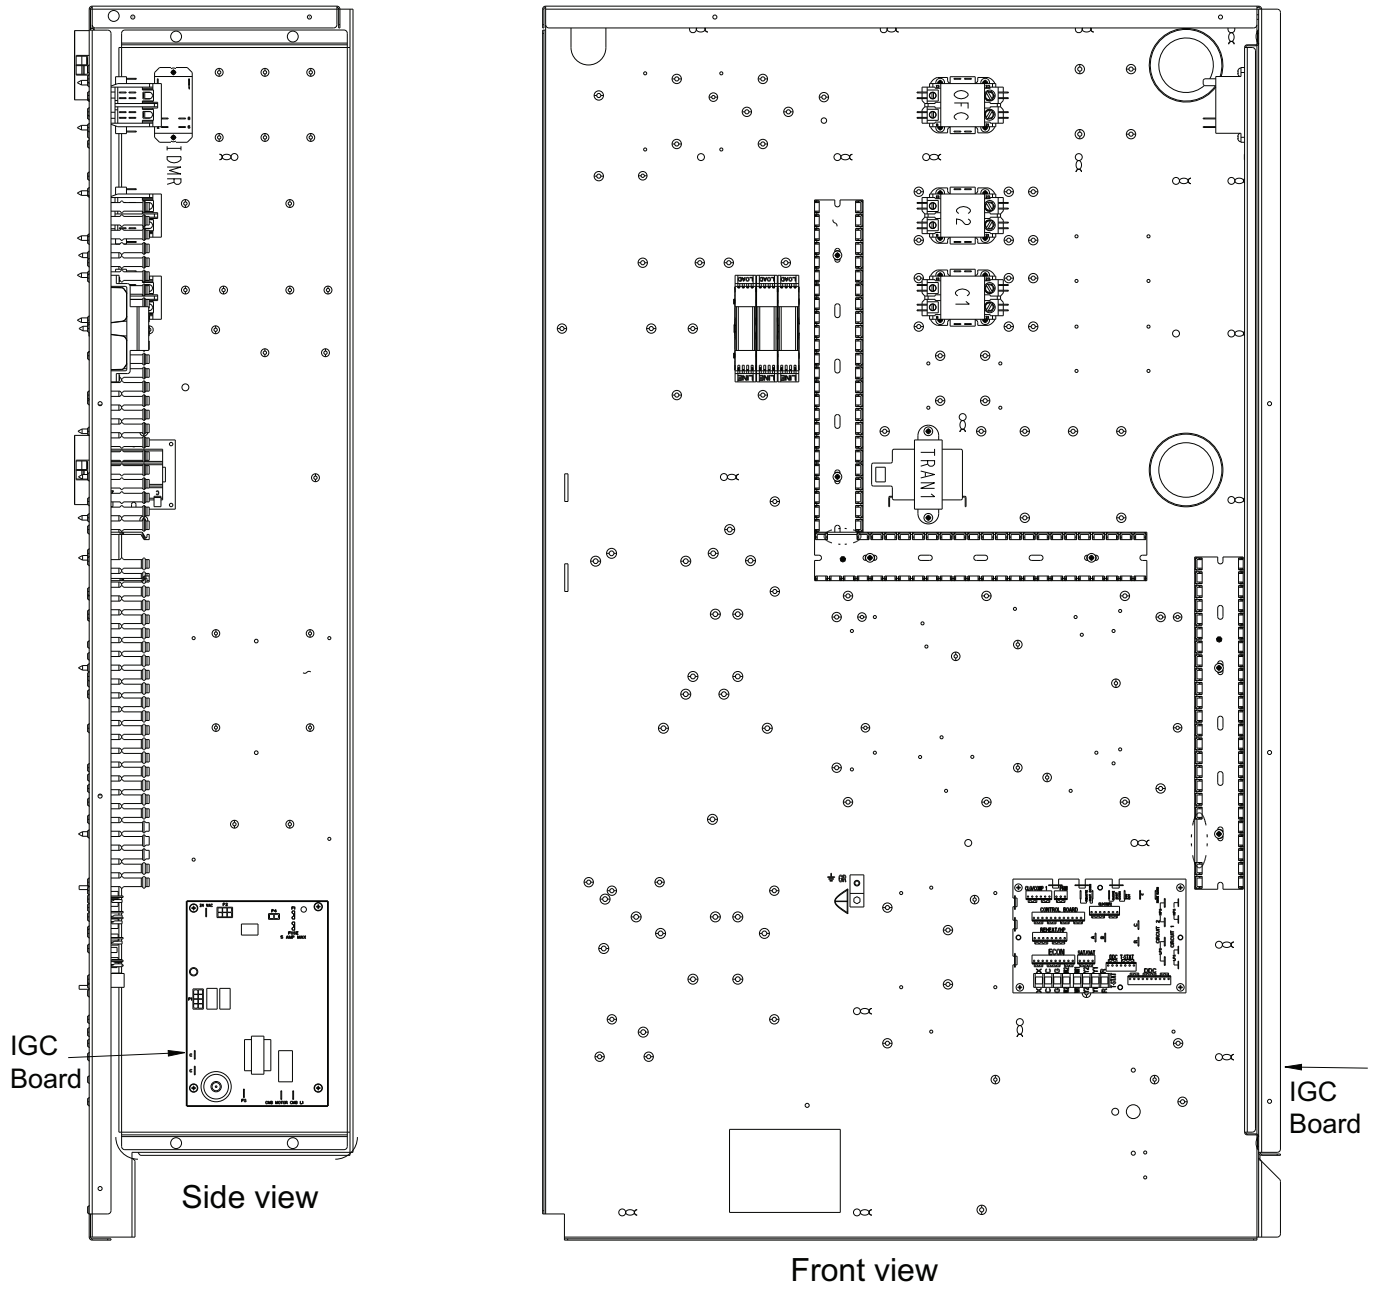
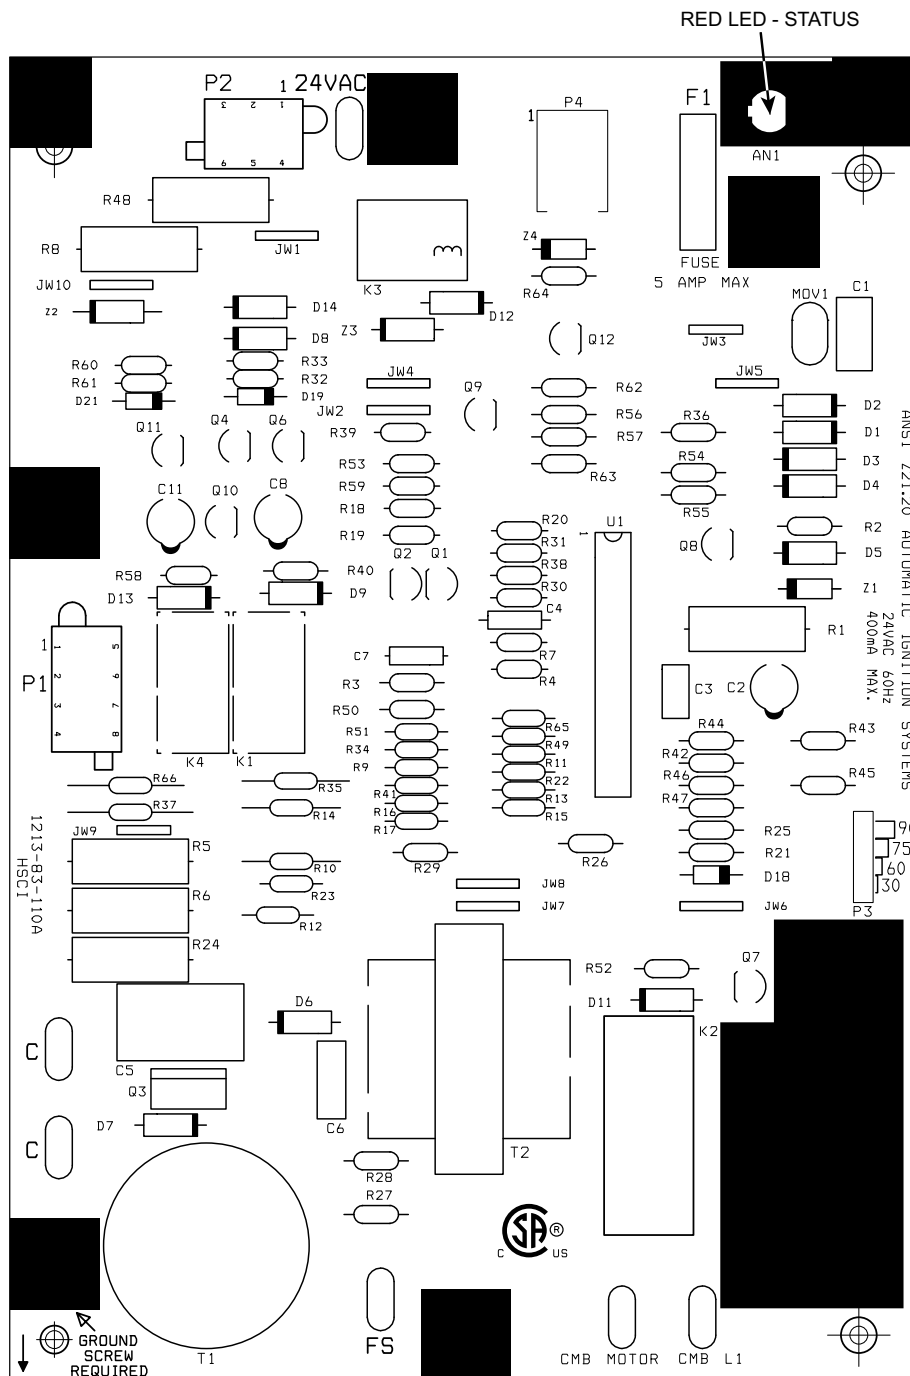

Fig. 48 — Unit Control Box/IGC Location
Fig. 52 — Integrated Gas Control (IGC) Board
6. Remove igniter wires and sensor wires at the Integrated Gas Unit Controller (IGC). See Fig. 48.
Unit is equipped with a direct spark ignition 100% lockout system. Integrated Gas Unit Controller (IGC) is located in the control box. See Fig. 48. The IGC contains a self-diagnostic LED (light-emitting diode). A single LED (see Fig. 52) on the IGC provides a visual display of operational or sequential problems when the power supply is uninterrupted. When a break in power occurs, the IGC will be reset, resulting in a loss of fault history, and the indoor evaporator fan ON/OFF times will be reset. The LED error code can be observed through the viewport. During servicing, refer to the label on the control box cover or Table 13 for an explanation of LED error code descriptions.